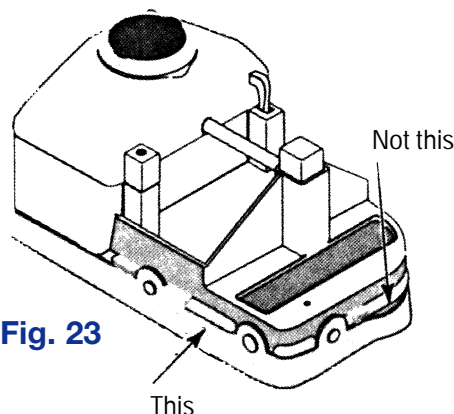

Fig. 23
6. Install the rubber vacuum skirt on the cleaner with the word 'OUTSIDE' showing. Start at the large pin on the back of the cleaner head (See Figure 22) and work around the cleaner. Make sure the skirt is flush against the stop strips on the cleaner head (see Figure 23).